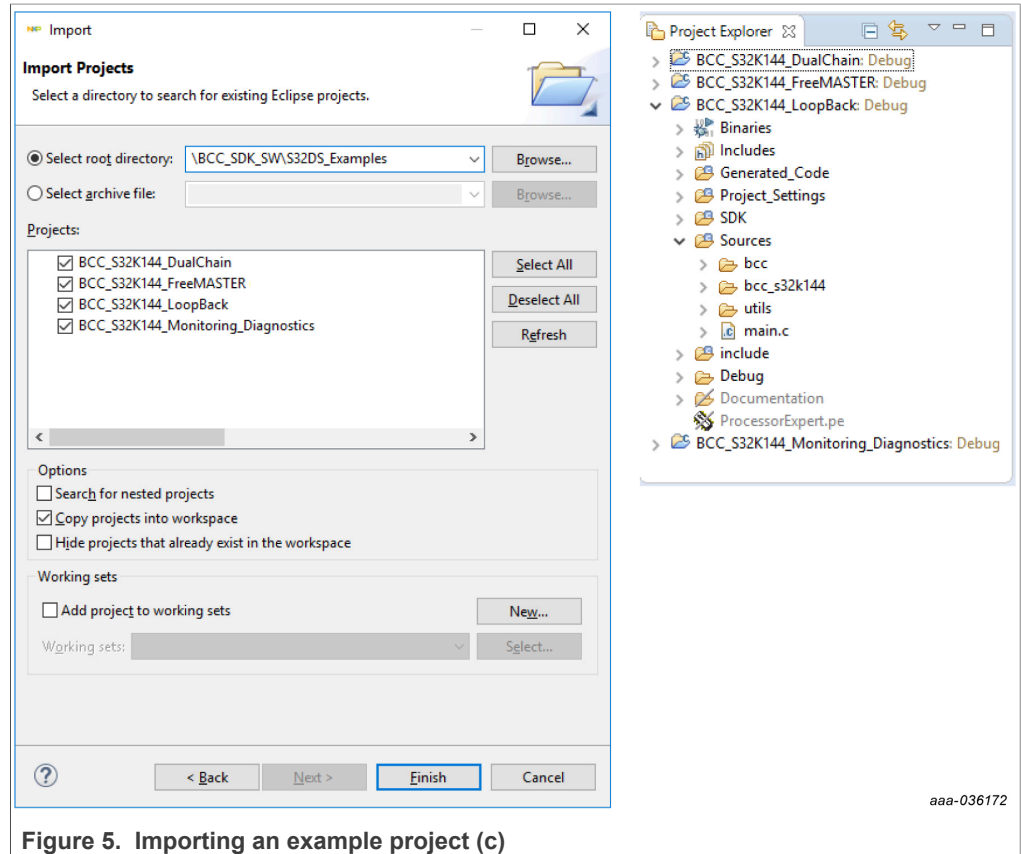

Figure 5. Importing an example project (c)
- With your project now loaded in the **Select root directory** box, click **Copy projects into workspace** checkbox. Then click **Finish**. The project is now in the S32 Design Studio workspace where you can build and run it. See Figure 5.